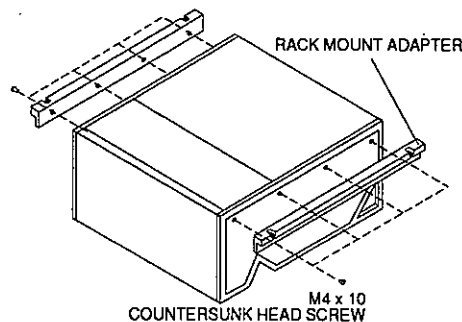

Figure 5-8
2. Attach the Rack Mount Adapters to the sides of the machine using the M4x20 screws supplied as shown in **Figure 5-8**.
2. Attach the Rack Mount adapters to the sides of the machine using the M4x10 flathead screws as shown in **Figure 5-8**.